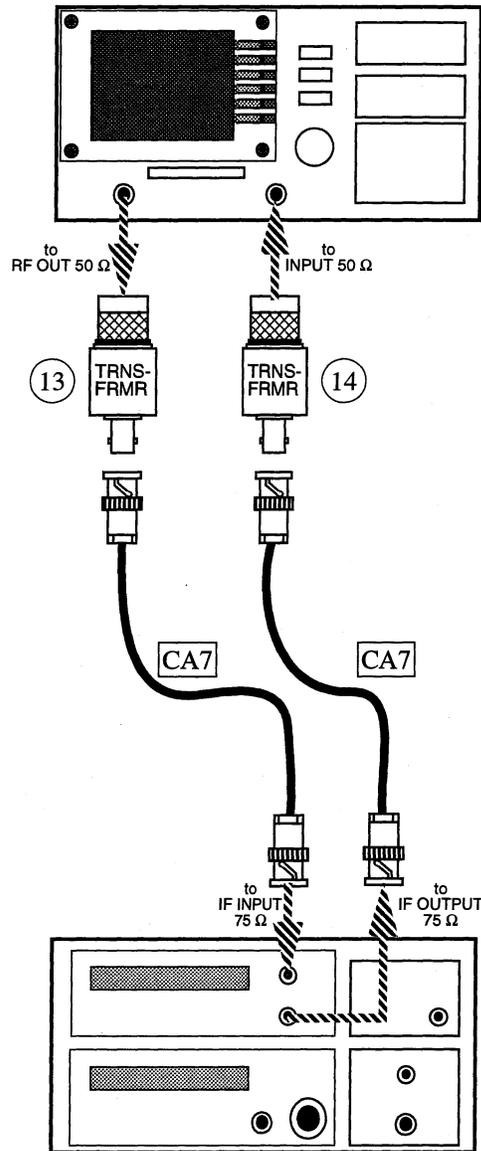

Figure 8. MFS Calibration
- 5 Connect the test equipment as shown in Figure 8.
- g. Remove the test connections established in Step 5 (Figure 8).